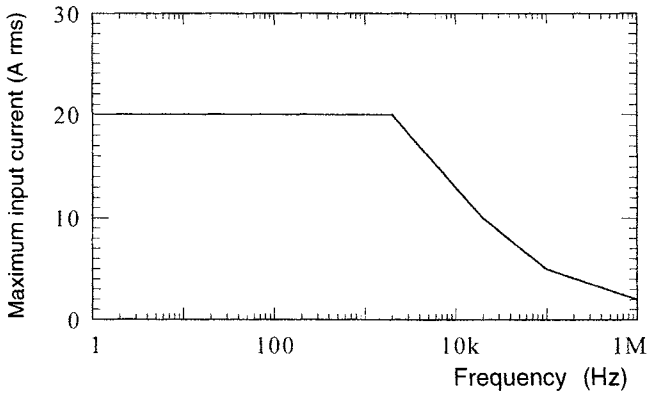

Fig. 2 Maximum Input Range
■ Continuous maximum input range	20 A (see Fig. 2)